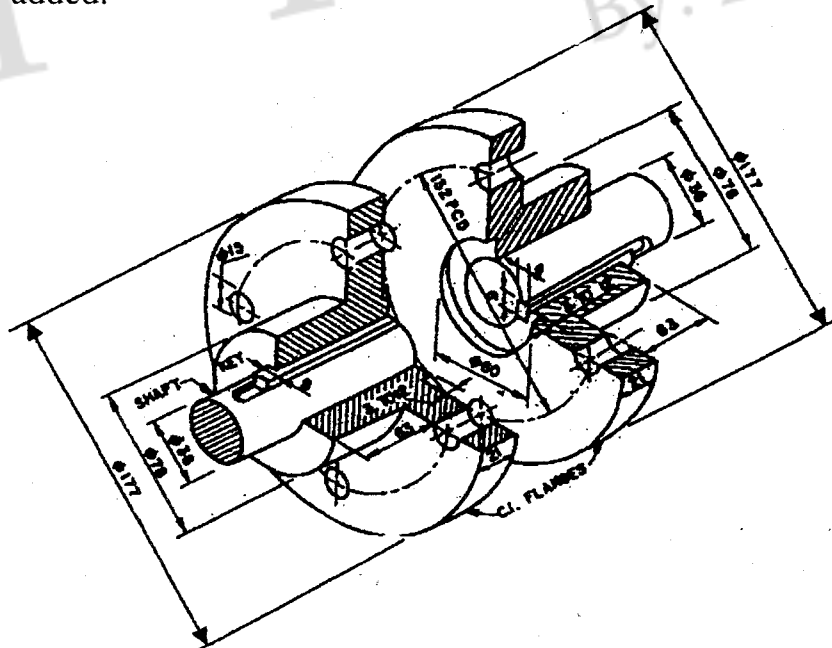

Figure 1
- Q7)** Figure 1 shows flanges, keys and shafts to be connected in a flange coupling, Assemble and draw elevation and side view in full. Note that nuts and bolts are to be added.